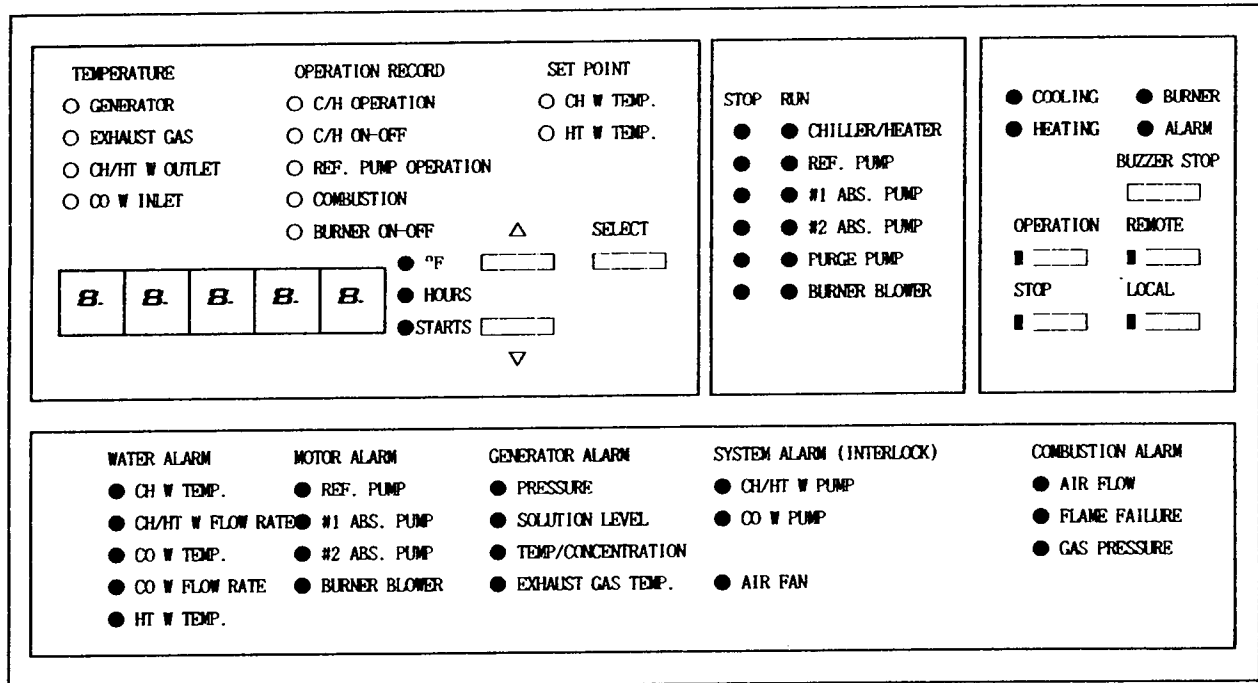

FIG. 2-3
a) Some indication lamps light as shown Fig.2-3.